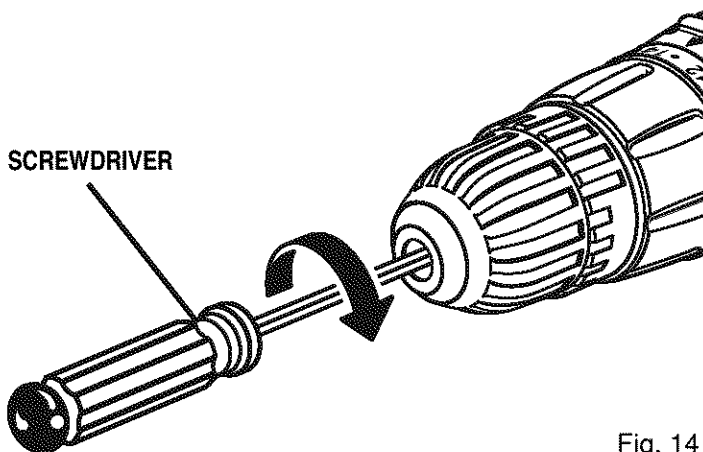

Fig. 14
- Open chuck jaws and remove hex key. Remove the chuck screw by turning it in a clockwise direction. See Figure 14.